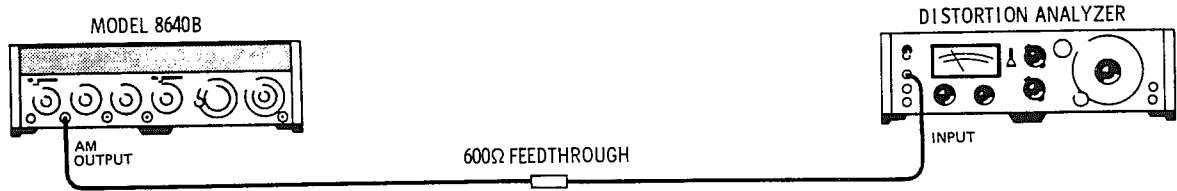

Figure 4-17. Internal Modulation Oscillator Distortion Test Setup
1. Connect equipment as shown in Figure 4-17 after setting Signal Generator's controls as follows: